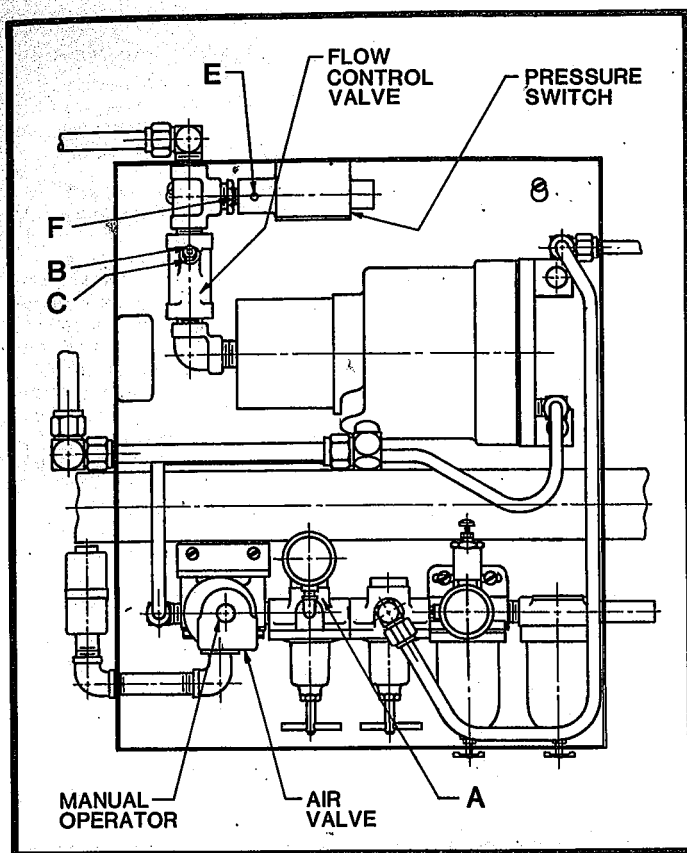

FIGURE 122
3. Set air pressure regulator "A" (Figure 122) to 60 p.s.i. air pressure.
- D. Depress the manual operator on the air valve (Figure 122) to build-up oil pressure in the hold-down system. The pressure switch should not change state (contacts should not close). Turn adjusting screw "F" in increments of one-quarter turn until the pressure switch contacts change state (close).
- G. Reset air pressure regulator "A" (Figure 122) to 70 p.s.i. air pressure.
- A. Hold adjusting stem "B" and loosen nut "C" of flow control valve (Figure 122).